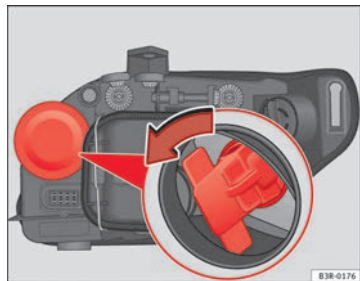

Fig. 203 Turn signal
- Remove the bulb holder by pulling on the grip and turning it anti-clockwise ⇒ fig. 203.